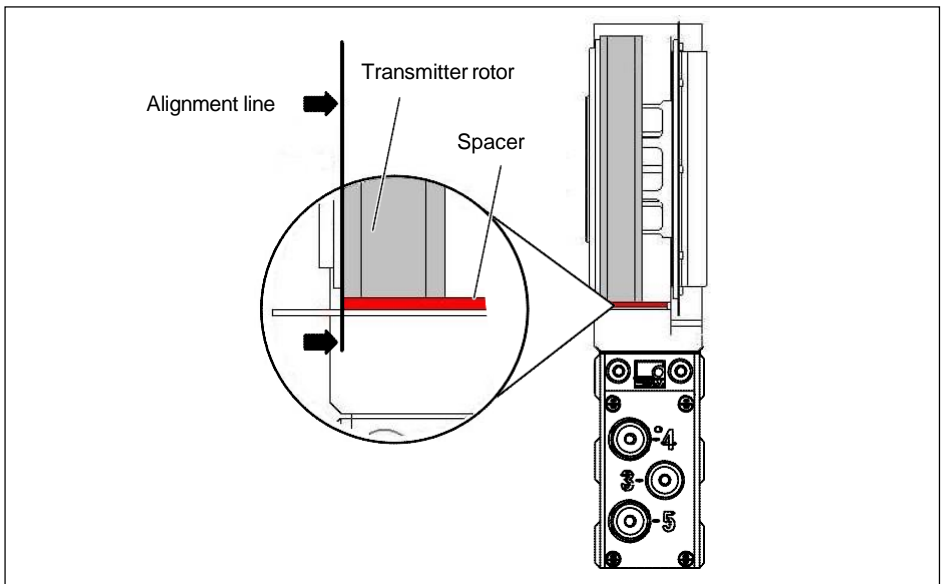

Fig. 8.18 Axial alignment to the rotor
5. Use the spacers to axially align the stator to the rotor. The rotor should be in line with the edge of the red spacer, *see Fig. 8.18*.